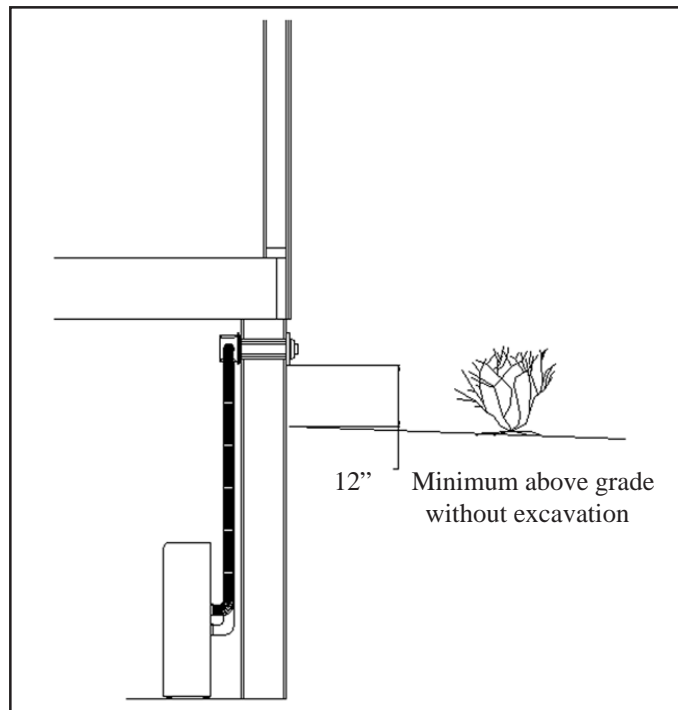

FIGURE 3
3. If the furnace is installed in a basement, a 12" clearance must be maintained between ground level and the bottom of the vent cap. Do not install furnace where vent cap will terminate in a window well or any other opening below ground level. (See Figure 3). Do not allow snow accumulation to build up within 12" of the vent cap.